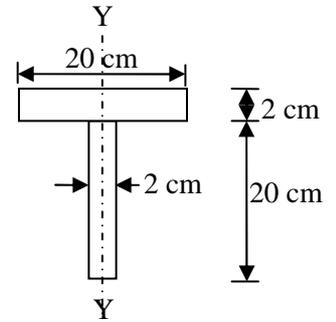

Fig. 5 Que 3 (b)
- (b) Determine moment of inertia of a section shown in **fig. 5** about horizontal centroidal axis. **05**